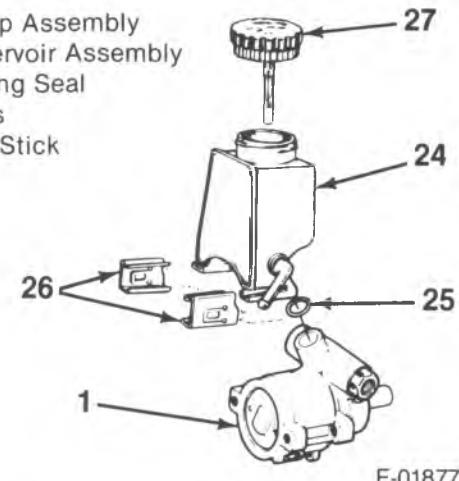

Figure 31—Removing the Reservoir
- Make sure the beveled side of ring (19) is properly located.
18. Flow control spring (20).
19. Flow control valve (21).
20. O-ring seal (22).
21. O-ring (25).
22. Reservoir (24) (figure 31).